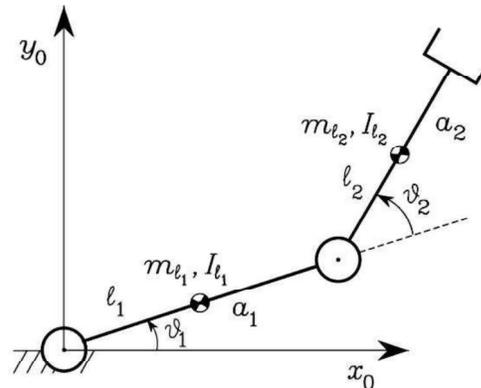

Figure 4
1. Develop a dynamic model for two degree of freedom manipulator as shown in figure 4.